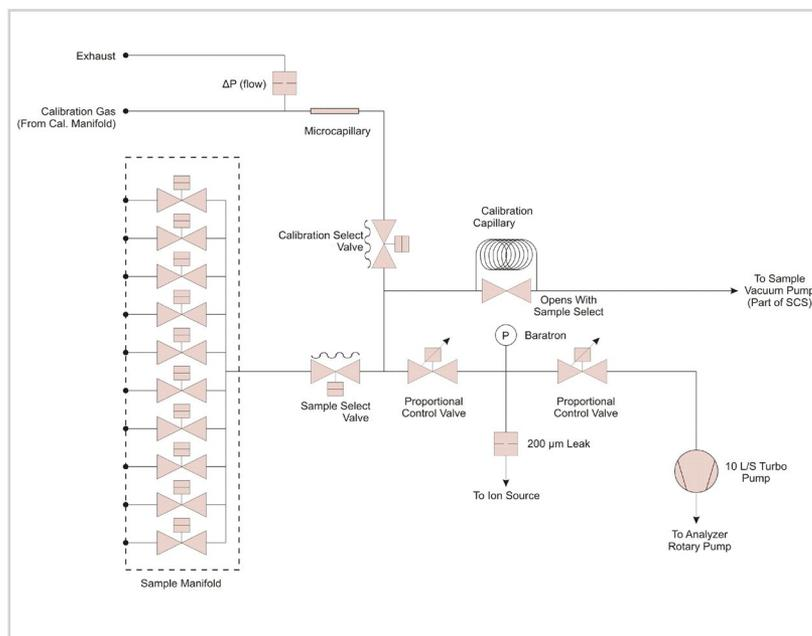

Figure 4. Schematic of the variable pressure inlet.
To meet these application demands the variable pressure inlet needs to contain not one but two control valves working in opposition – as one control valve is opening, the other is closing. This ensures a wide dynamic range and fast, precise control. The Prima PRO process mass spectrometer employs a Variable Pressure (VP) inlet is shown in schematic form in figure 4. It can control the MS analyzer pressure at just 0.1 mbar and handle sample pressures down to 0.3 mbar.